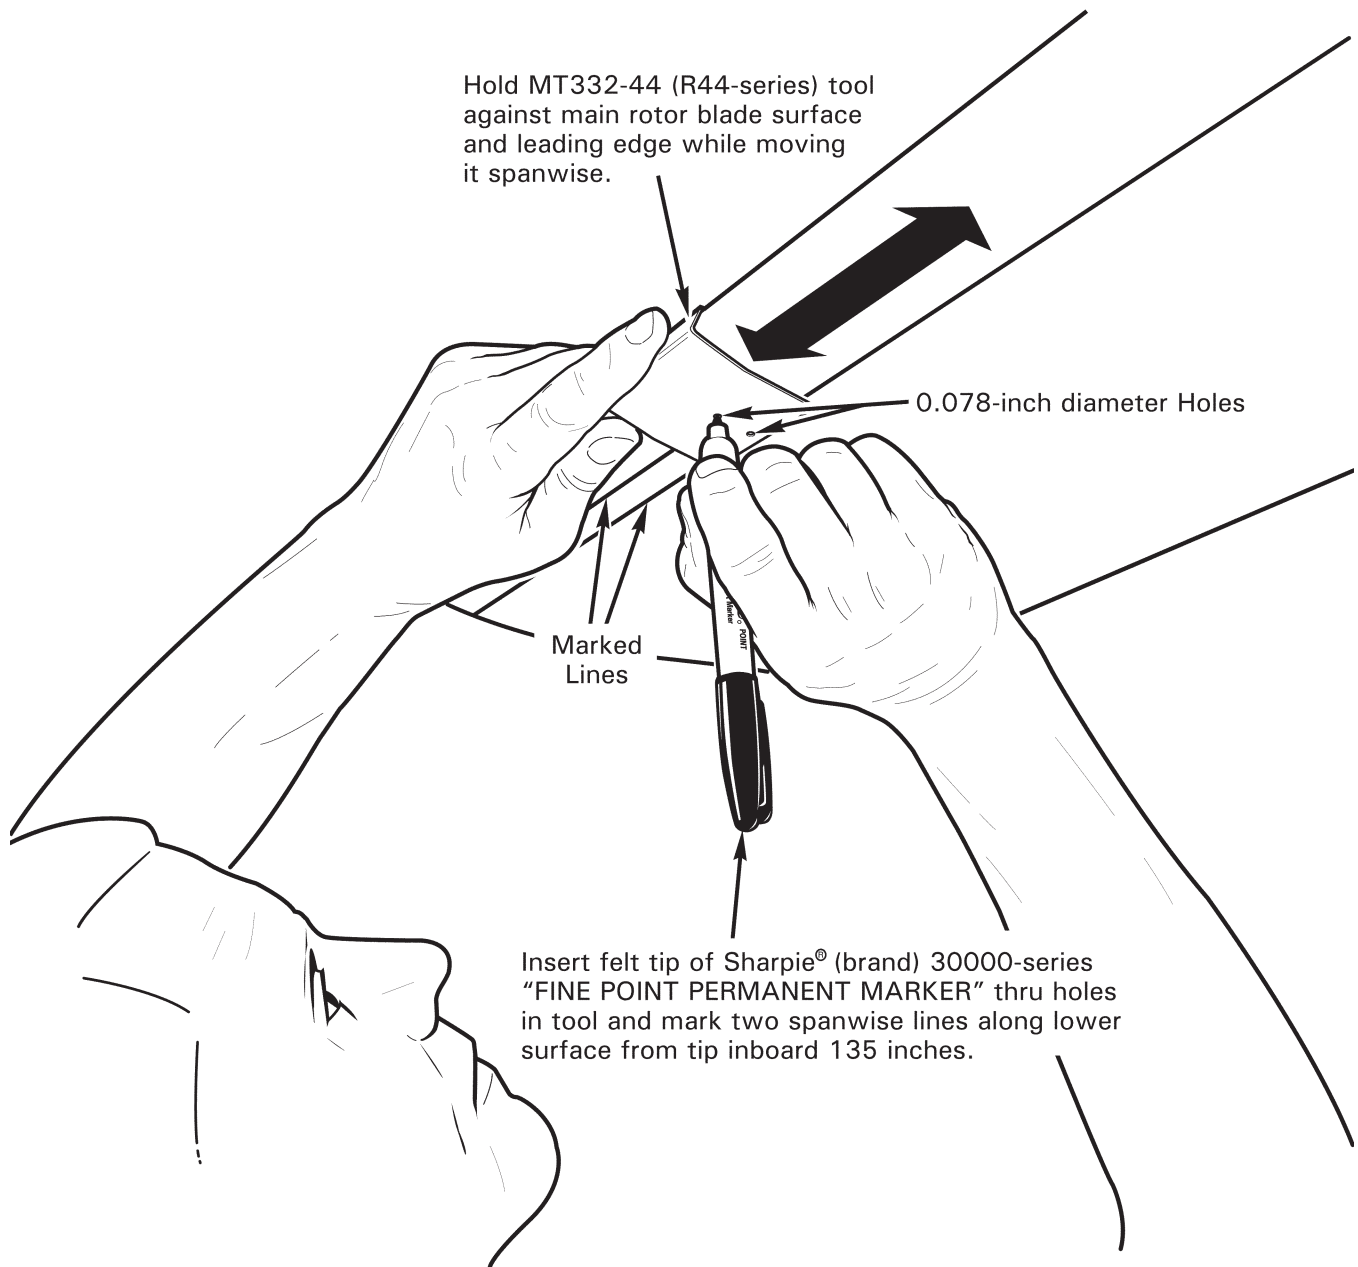

FIGURE 2 MARKING LOWER SKIN-TO-SPAR BOND JOINT AREA
4. Refer to Figure 2. Mark outboard 135 inches of blade lower surface as shown to identify skin-to-spar bond joint area.